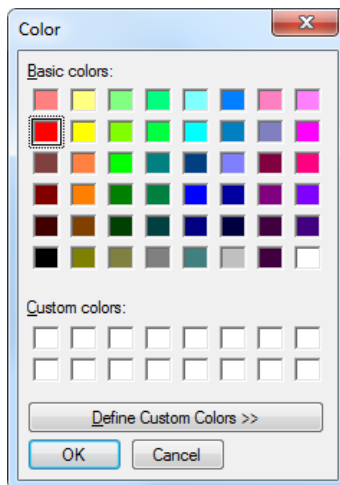

Figure 4-54 The Color dialog box
4. In the **Color** dialog box, click the desired color, and then click **OK** (see Figure 4-54 on page 281).